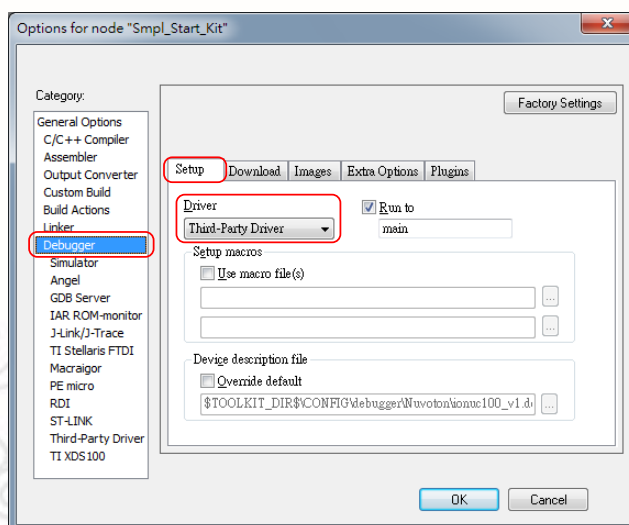

Figure 4-15 Set IAR EWARM as Third-Party Driver for Debugger & Programmer
- Step 4: In the **Setup** tab of the **Debugger** page, select **Third-Party Driver** as the driver, as shown in Figure 4-15.